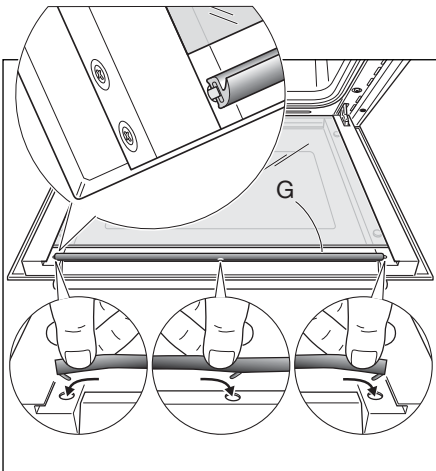

Fig.43e
- Replace the seal "G" by hooking in the three fixing hooks. Make sure that you put it in the correct way (Fig. 43e).